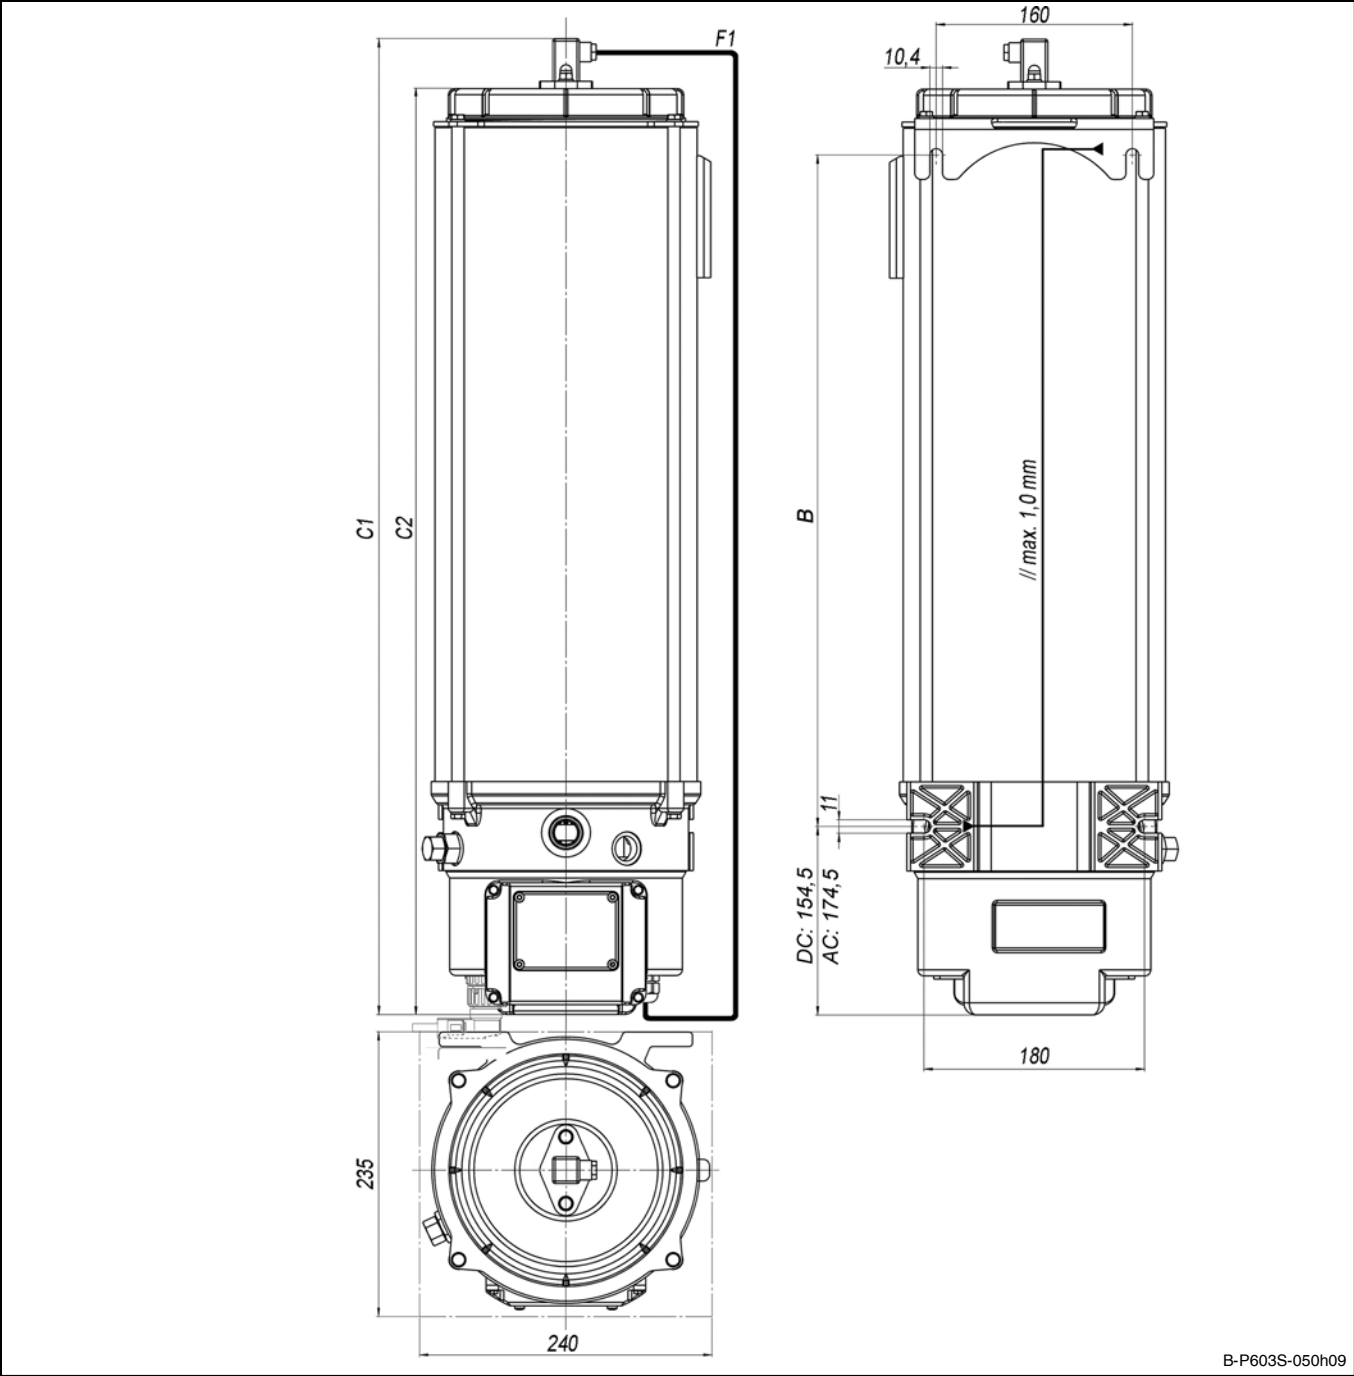

Fig. 48 Dimensions P 603; 10-, 15- & 20-liter reservoir
- Observe the admissible tolerance of smoothness (\parallel max. 1,0 mm) between the upper and lower mounting surface for pumps with 10, 15 and 20 liter reservoirs (see fig. 48).